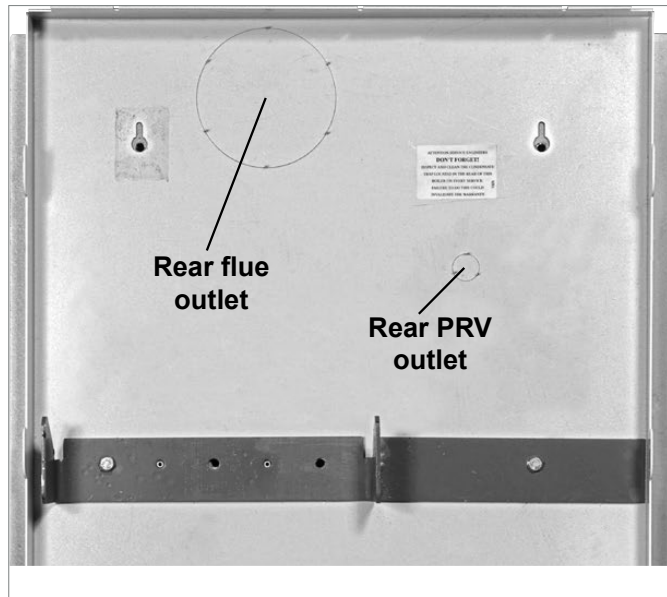

Figure 4-8: Back panel knock-outs
1. If a back outlet flue system is to be used, remove the large circular flue knock-out from back panel. If the rear outlet PRV discharge is to be used, remove the knock-out from the back panel. (See Figure 4-8).